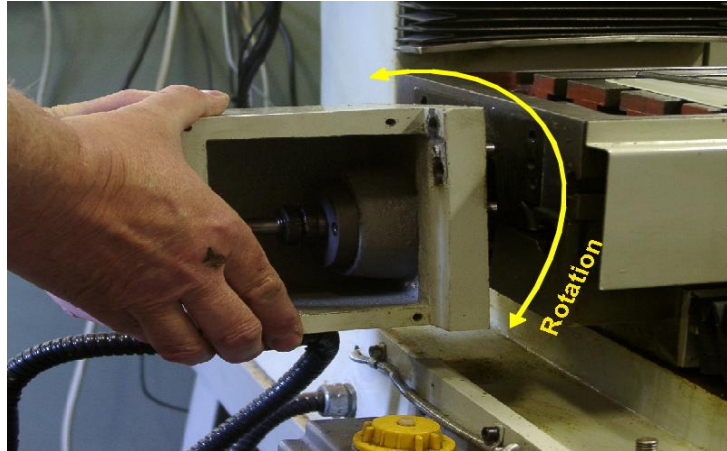

Figure 9.6 – Feeling preload in bearings
- (d) Remove the four cap screws holding the motor coupler box to the table (X-axis) or frame of the machine (Y- and Z-axis). Move the axis so the mounting box comes free of its pins. The screw and box are supported on the ballnut so take care not to apply forces that could bend the screw (figure 9.6).